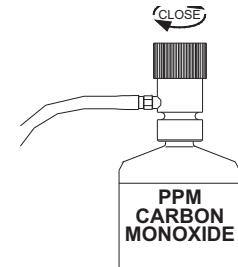

Figure 16
6. Turn the regulator off and repeat “zero” adjustment procedure (steps 1-10 above). The display should return to a “00” reading (Figure 16).